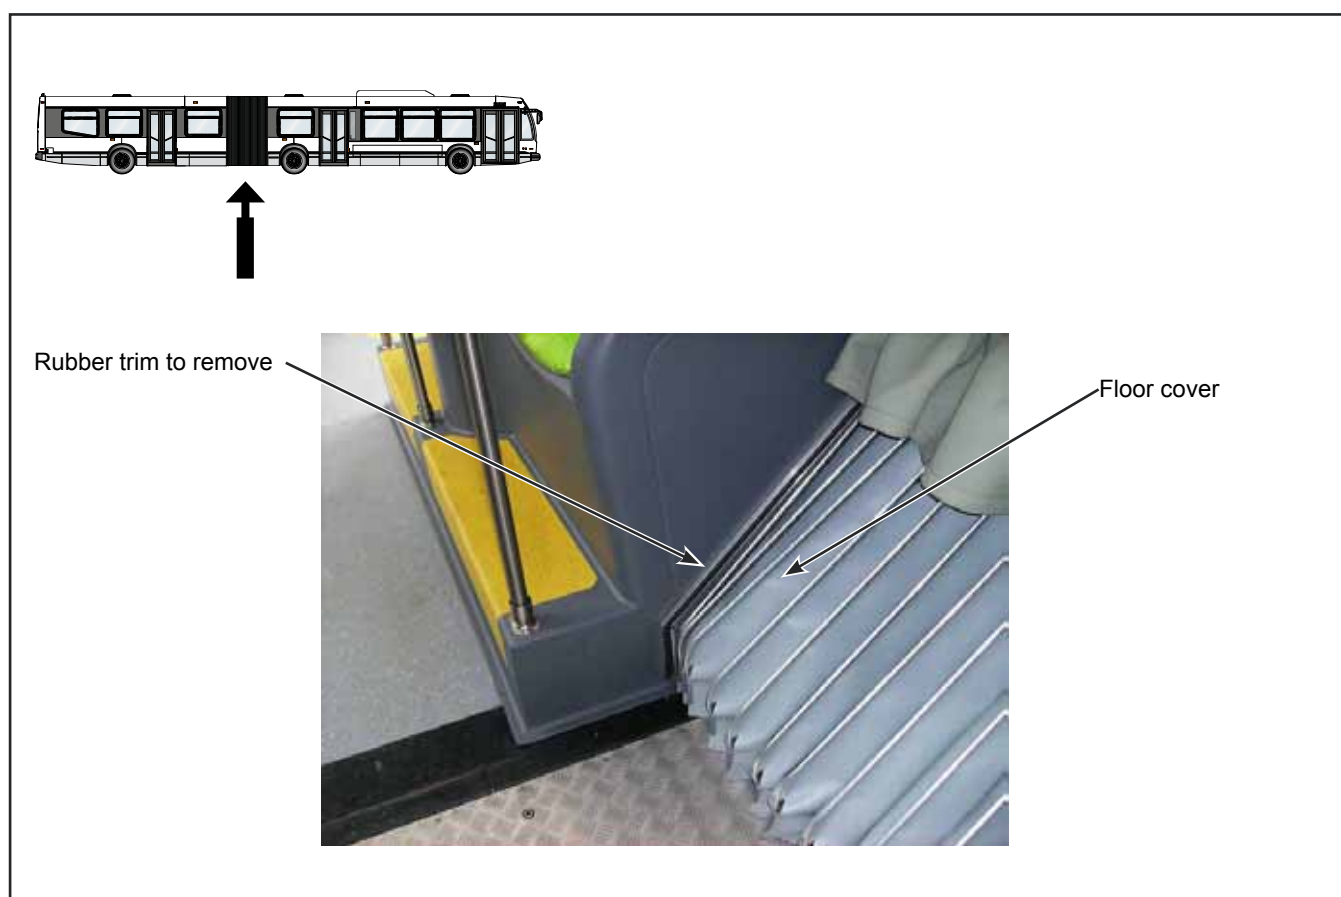

Figure 1 - Floor Cover to Detach
1.1. Detach the floor cover attached to the side of the four-seat installation. See Figure 1. Retain the rubber trim.